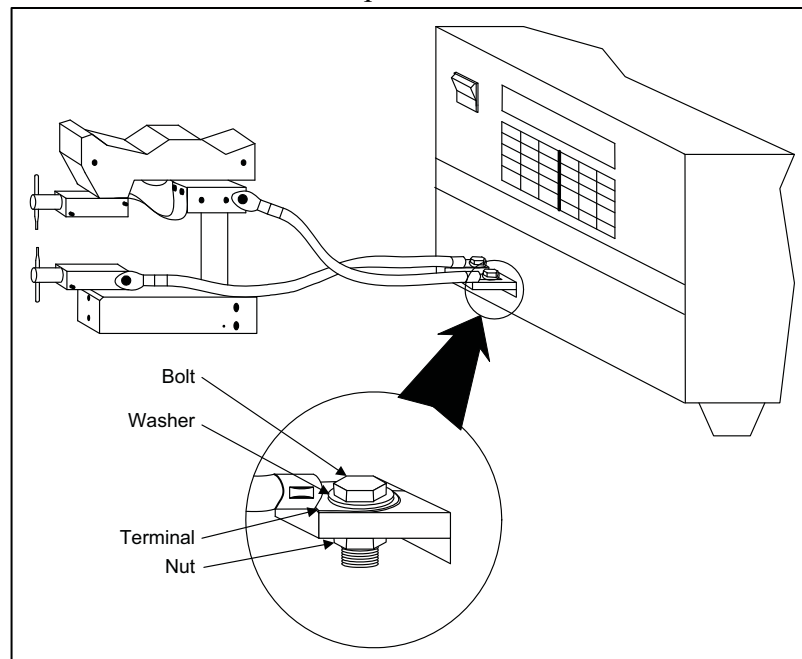

Figure 2-2. Correct Terminal Connection
- c Bolt terminals together, **DO NOT** place washers between the terminals of the power supply and the terminals of the cables. Tighten connections securely, they must be free from oxidation, dirt and/or grease. See figure 2-2.